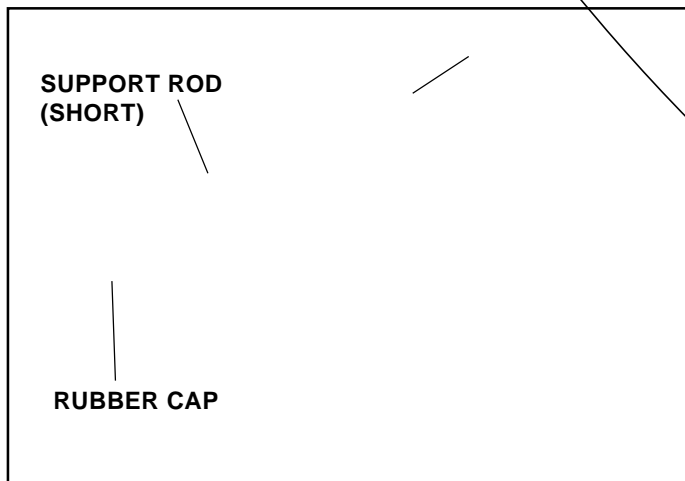

FIGURE 8
- Install rubber caps onto the ends of both top tubes. See figure 8.
- Install the shorter of the two support rods into the holes at the front of each top tube. See figure 8.